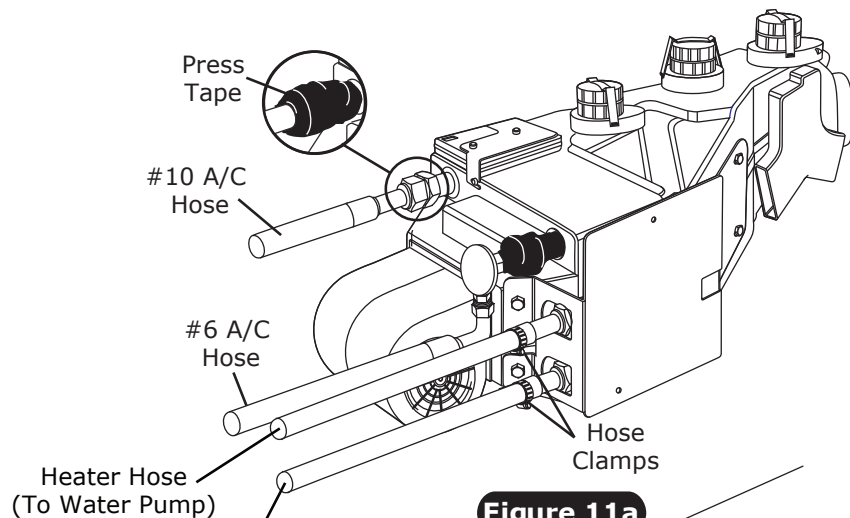

Figure 11a
1. Install A/C and heater hoses (See Figure 11a, below).
2. Locate the #10 compressor A/C hose. Lubricate (2) #10 O-rings and connect the 45° fitting to the #10 suction port on the compressor. Route the 45° female fitting with R134a service port to the #10 hardline on the inner fender cap. Lubricate (2) #10 O-rings and connect the 90° female fitting in the wheel well to the #10 hardline on the inner fender cap. Then route the straight female fitting from the inner fender cap to the #10 fitting on the evaporator (See Figure 11a, Page 12 and Figure 15, Page 15). Tighten each fitting connection as shown in Figure 14, above.
3. Locate the #6 evaporator A/C hose. Lubricate (2) #6 O-rings and connect the straight female fitting to the #6 hardline coming over the core support from the drier. Route the straight female fitting to the #6 hardline on the inner fender cap. Lubricate (2) #6 O-rings and connect the 90° female fitting in the wheel well to the #6 hardline on the inner fender cap. Then route the 90° female fitting from the inner fender cap to the #6 fitting on the evaporator (See Figure 11a, Page 12 and Figure 15, Page 15). Tighten each fitting connection as shown in Figure 14, above.
3. In wheel well, route a piece of heater hose from the top heater fitting on the inner fender cap to the top heater fitting of the heater core as shown in Figure 11a, Page 12, and Figure 15, below. Secure using hose clamps.
4. In wheel well, route a piece of heater hose from the bottom heater fitting on the inner fender cap to the bottom heater fitting of the heater core as shown in Figure 11a, Page 12, and Figure 15, below. Secure using hose clamps. **NOTE: Install heater control valve in line with intake manifold (pressure side) heater hose, and secure using hose clamps as shown in Figure 15, below. Also note proper flow direction.**